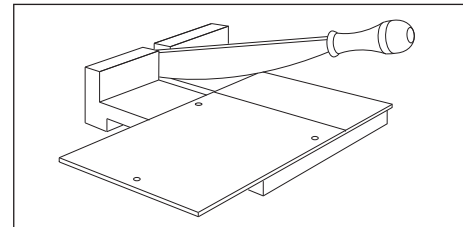

Fig. 20 – Cutting fibre cement slate using a guillotine
- 1 Slates should be scored using a scribing tool and snapped over a straight edge, or scribed and cut with a guillotine (Fig. 20).